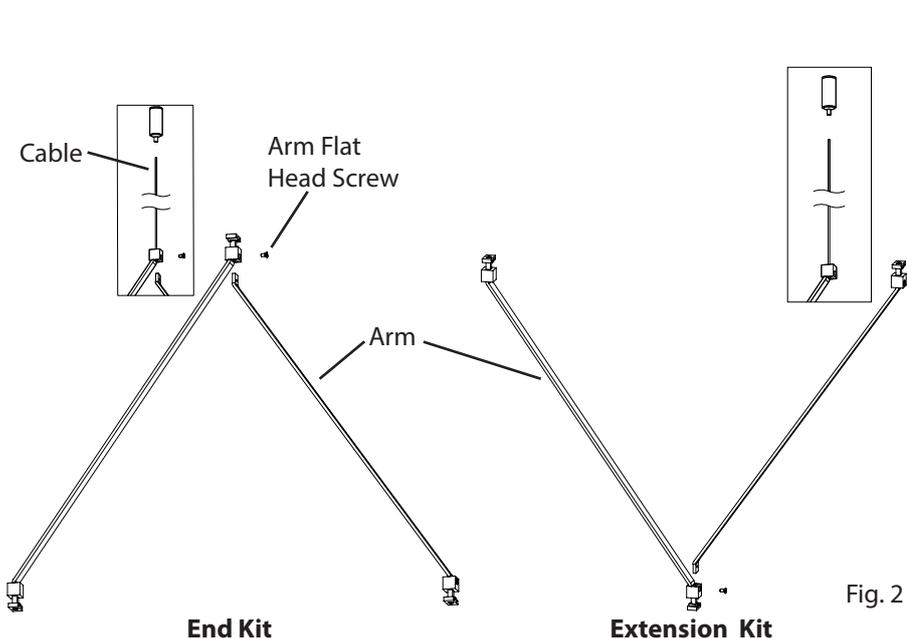

Fig. 2
2. Insert Extension or End **Arm** into the remaining slot of the **Bracket** and secure it with the provided **Arm Flat Head Screw** (Fig. 2).
3. Where applicable: Insert the **Cable** into the **Post** and adjust to the desired length: to shorten, push the Cable up; to lengthen, push in the **Plunger** while pulling down on the Cable, release the Plunger to lock. Cut off the excess Cable where it exits the Post (Fig. 2).
2. Align **Power Bars** with **Hanger** (Fig. 2). Press down firmly on the top of the **Top Power Bar** and bottom of **Bottom Power Bar** until the Power Bars clicks into place. Reattach **Hanger Cap** with **Flat Head Screw** (Fig. 3).